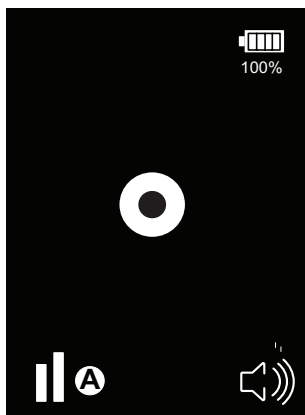

Fig. 6: Steady state display.
3. The CS LD 1.0 is ready to begin searching for leaks when the steady audio “beep” sounds. The center circle will flash in sync with the audio (Fig. 6)